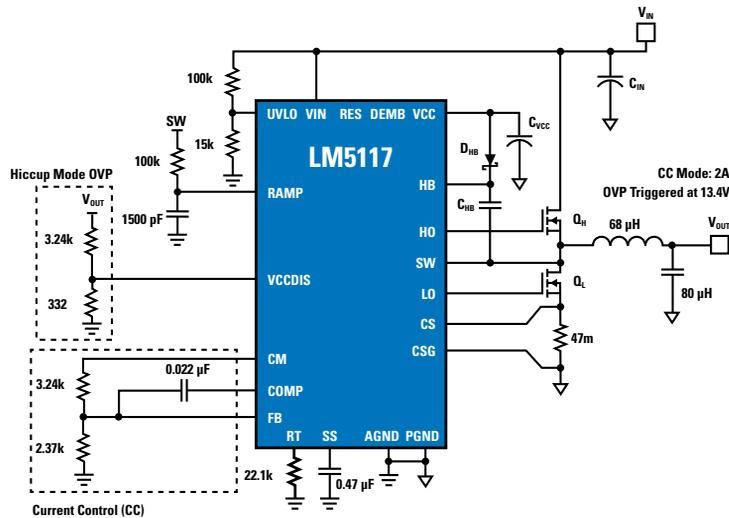

Figure 11. Constant Current Regulator with Hiccup-Mode Over-Voltage Protection
In applications such as LED drivers, a constant current output is required, while output over-voltage protection is required as a protection function. The LM5117 can also be configured as a constant current regulator by using the current monitor feature (CM) as the feedback (FB) input as shown in *Figure 11*. A voltage divider at the VCCDIS pin from V_{OUT} to AGND can be used to protect against output over-voltage, if required. When the VCCDIS pin voltage is greater than the VCCDIS threshold, the controller disables the VCC regulator and the VCC pin voltage decays. When the VCC pin voltage is less than the VCC UVLO threshold, both HO and LO outputs stop switching. Due to the time delay required for VCC to decay below the VCC UVLO threshold, the over-voltage protection operates in hiccup-mode.